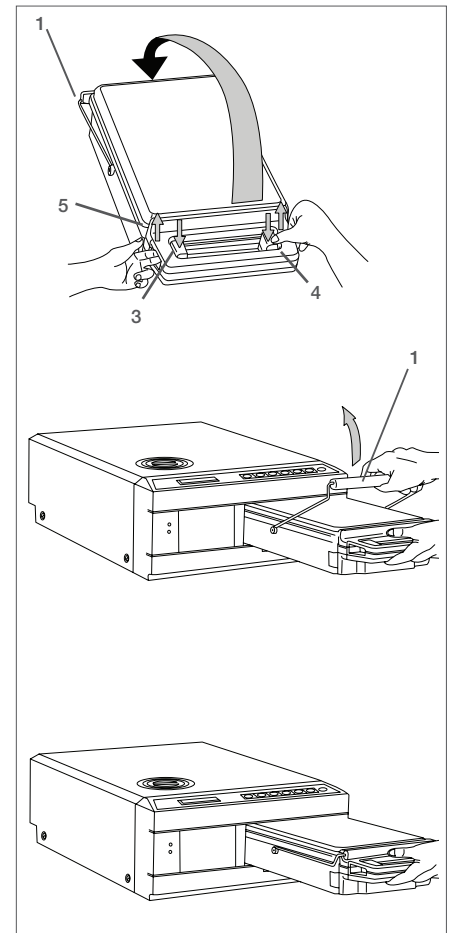

Figure 9
1. Hold the cassette handle in one hand and the carry handle in the other as shown in Figure 9.